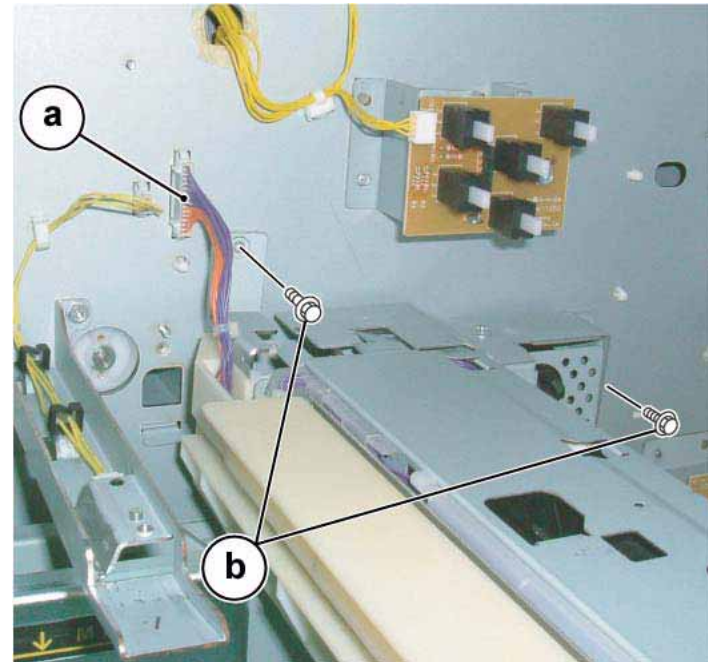

Figure 2 Disconnecting the connector
6. Disconnect the connector. Figure 2
- b. Remove the screws (2).